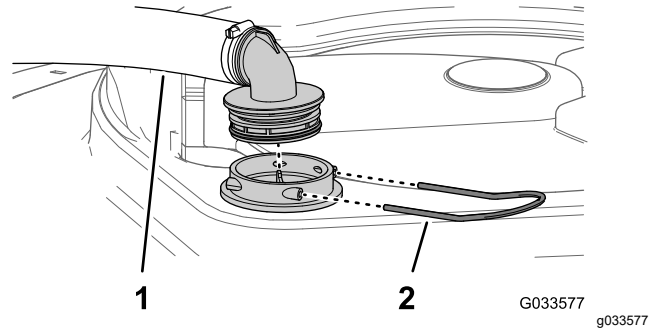

Figure 54
2. At the top of the sprayer tank, remove the retainer that secures the hose fitting attached to the large hose from the filter housing (Figure 54).
3. Remove the hose and hose fitting from the filter housing (Figure 54).